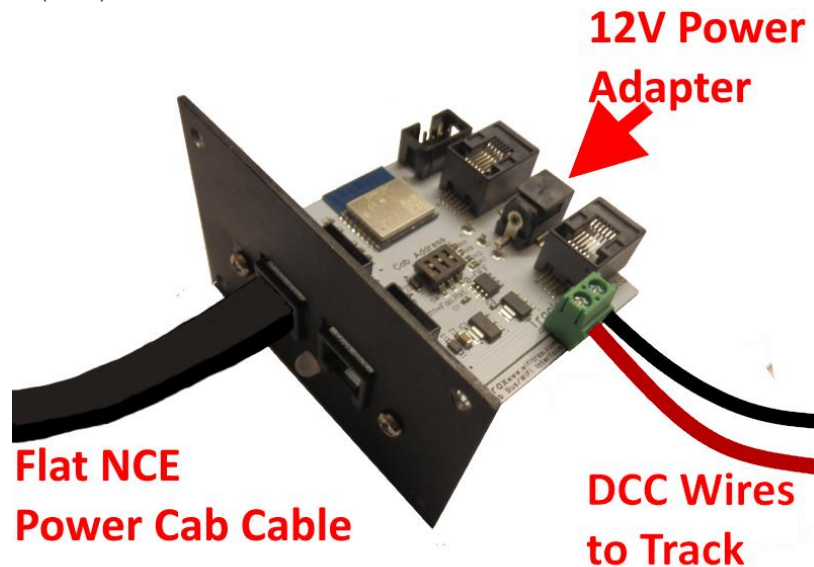

Figure 2 Basic Connections used in PCP Mode
| Figure 2 Basic Connections used in PCP Mode | 7 |
(4) Connect:
- a. **Either** PCP Mode Connections: Figure 2 left. Place the switch on the back in the "EXT POWER" position. Use the flat Power Cab cable from NCE to connect your Power Cab to the modular connector labelled "Power Cab Connector". Connect a 12 Volt Power supply (Power Jack. 2.5mm dia. pin, 5.5mm outer diameter, center positive) to the "Optional Power Connector at the back of the module. Connect your track to the two screw terminals labelled "Track Connector".
- b. **Or** UTP Mode Connections: Figure 2 right. Place the switch on the back in the "NORM POWER" position. Use an NCE Cab Bus cable to connect the "Command Station Cab Bus Connector" on the back to a cab bus output of your NCE Command Station. Power will come from the Command Station.